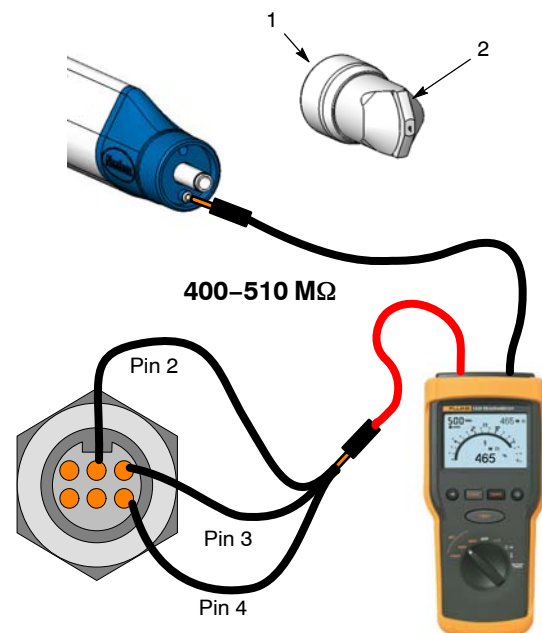

Figure 13 Multiplier/Resistor Test
1. See Figure 13. Remove the retaining nut (1) and nozzle (2).